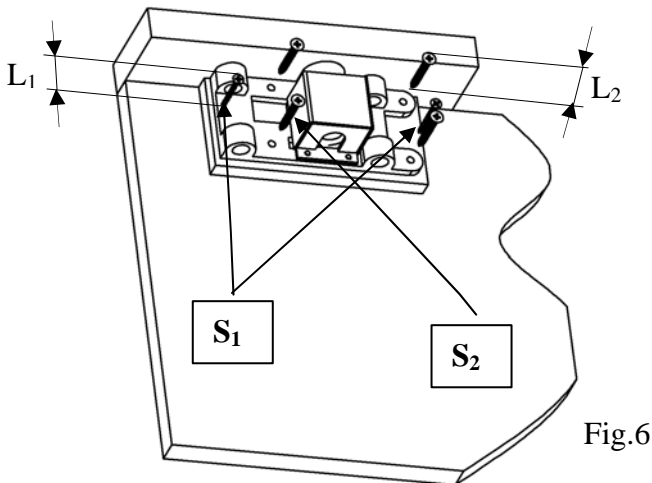

Fig.6
b) Now the vice can be installed on the workbench. First it must be dismantled into 2 parts by removing the retaining ring (7) and turning the spindle clockwise (CCW) until the base plate (1) exits the guide rods (5).
If a spacer is used, it must now be fixed to the bottom side of the workbench and pushed against the additional rear jaw or workbench collar. For easier installation, you can lightly fix it with 2 wood screws  $S_1$   $\varnothing 4-5\text{mm}$  (0,16"-0,2"), length  $L_1 = E$  (spacer thickness) + 25mm (1") and then attach to it the base plate (1) of vice HV, into pre-drilled openings of the base plate itself. Lightly tighten the screws  $S_2$  to enable the front jaw to fit correctly and the base plate (1) to meet with the rear jaw or workbench collar, Fig. 6